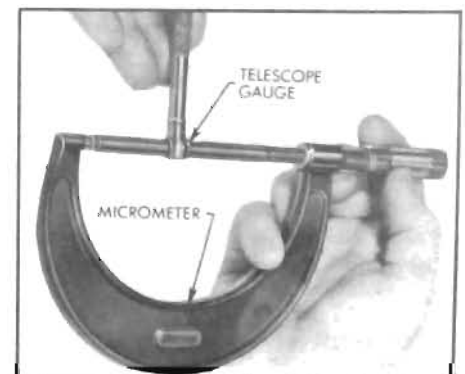

Figure 2-85—Measuring Telescope Gauge
2. Measure the telescope gauge. See Figure 2-85.